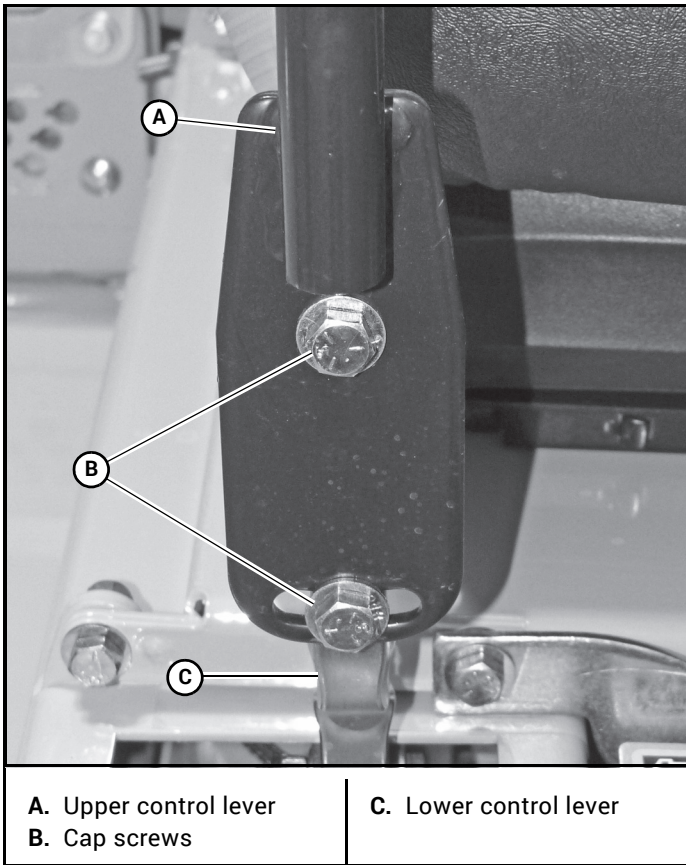

Figure 4-8
1. By loosening the cap screws that attach the upper steering control lever to the lower steering control lever the upper steering control lever can be pivoted to fit the operator's personal preference. Figure 4-8